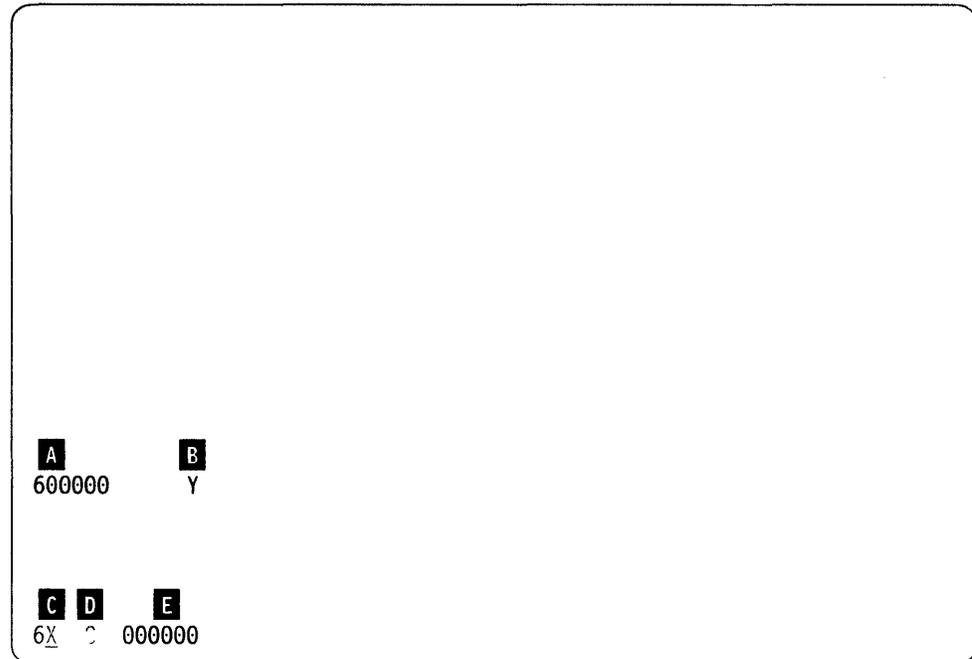

Figure 3-34. Dedicated Mode Screen Data Fields
6. Press the D key. A diagnostic display appears in the lower left corner of the screen. See Figure 3-34 on page 3-51 and the following text for definitions of control fields.